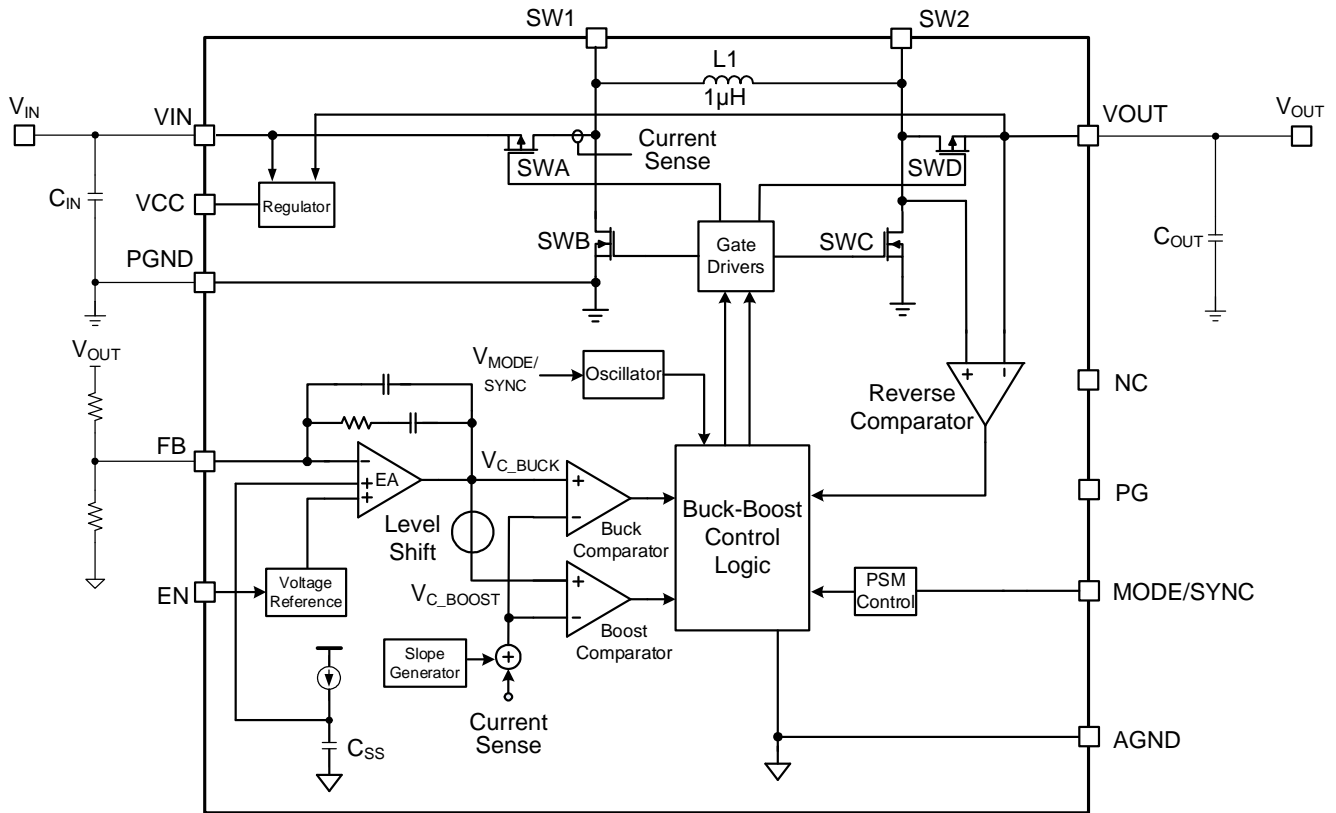

Figure 1: Functional Block Diagram
The MPM4710 is a high-efficiency, dual-mode, buck-boost converter that can regulate the output voltage (V_{OUT}) above, equal to, or below the input voltage (V_{IN}). V_{OUT} is sensed by the feedback (FB) pin via an external resistor divider connected between VOUT and PGND (see Figure 1 on page 10). The difference between the FB voltage (V_{FB}) and the internal reference voltage (V_{REF}) is amplified by the error amplifier (EA) to generate a buck control signal (V_{C_BUCK}). The buck comparator compares V_{C_BUCK} to the internal current ramp signal (the sensed SWA's current with slope compensation) to generate a pulse-width modulation (PWM) signal for SWA and SWB.